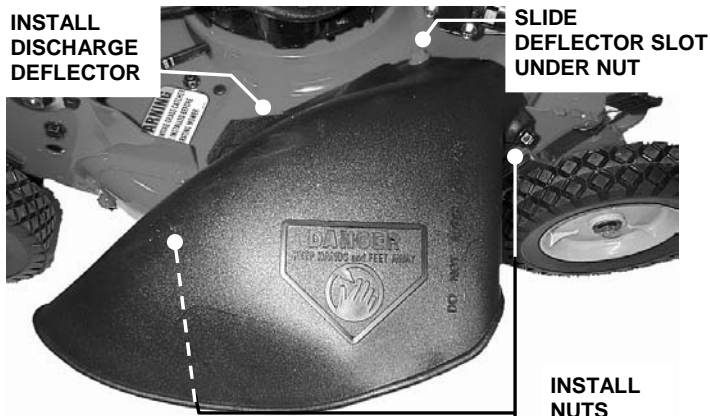

FIGURE 2.12
3. Install discharge deflector and secure to deck using hardware removed in Step 2. Slot in front edge of discharge deflector must be under nut as shown and both bolts protruding through holes in the side of the deflector. See Figure 2.12.